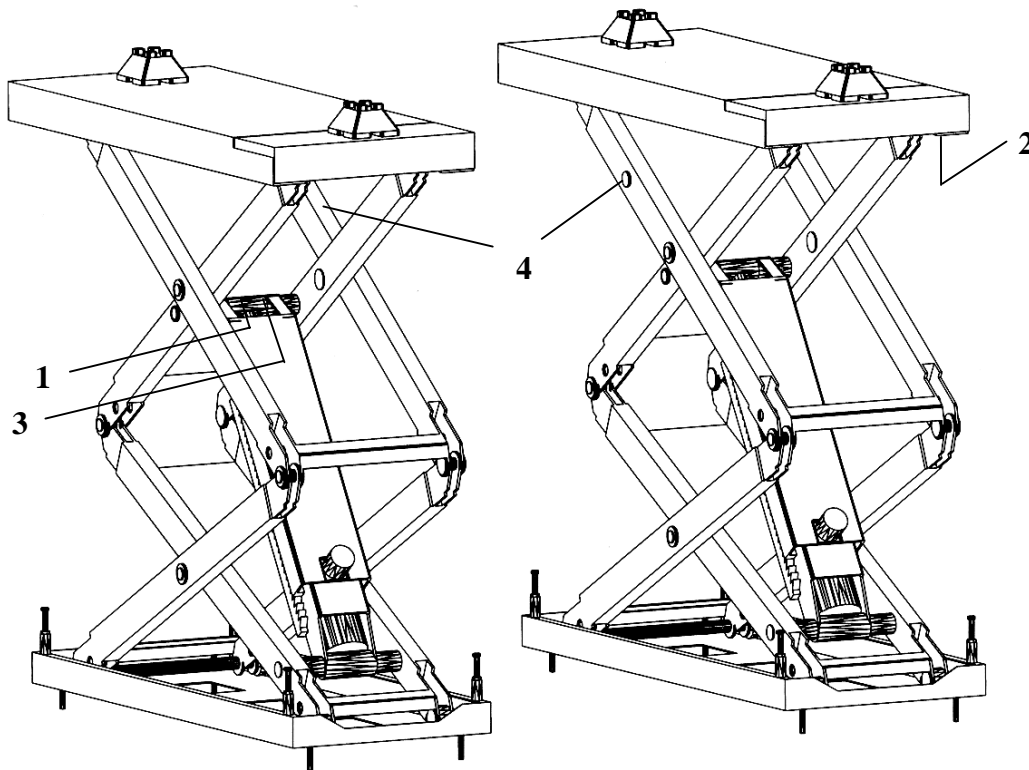
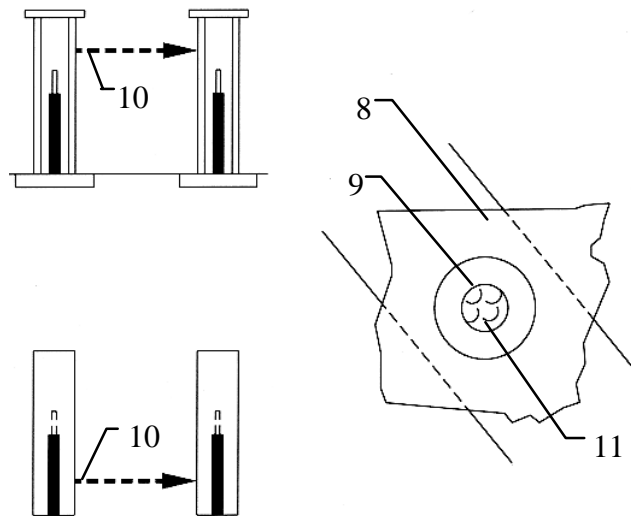

Figure 9 - Designation of the limit switches
Figure 10 - Photocell Test
The lift comes equipped with various preset limit switches for monitoring the safety functions and final positions. The control functions of the limit switches are described below. Figure 9 shows the location and description of the limit switches on the lift. The connection diagram for the control and safety switches is illustrated in the Index (Section 2).
- Check the photocell monitoring device (Figure 9, Item 4) for correct performance. This is done using a sheet of cardboard or paper (approx. 4" x 4" (100 x 100mm) see Figure 10, Item 8), with a hole of approx. 1" (25mm) in diameter (Figure 10, Item 9). Raise the lift until the photocell and the reflector are no longer blocked by the scissor arms. In this position, place the hole of the sheet of cardboard or paper over the centre of the reflector (Figure 10, Item 11).